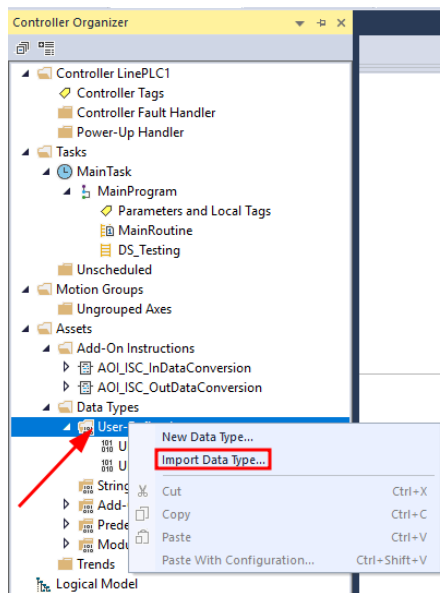

Figure 39: Import Data Type
30. Right-Click on "User-Defined" under "Data Types" and select "Import Data Type," Figure 39.